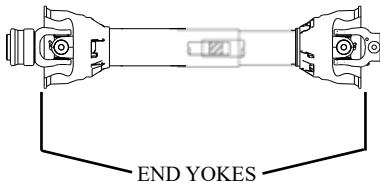

FIG. 7
**STEP 12:** Slide the two driveline halves apart, and pack 1/4 lb. of good grade gun grease into the open end of the driveline. Grease the grease zerk in the tractor end yoke and in the two center crosses. Slide the driveline halves back together with the end yokes in proper alignment (see FIG. 7). Failure to properly align end yokes may result in excessive vibration. Always make sure driveline guards are in place and rotate freely.